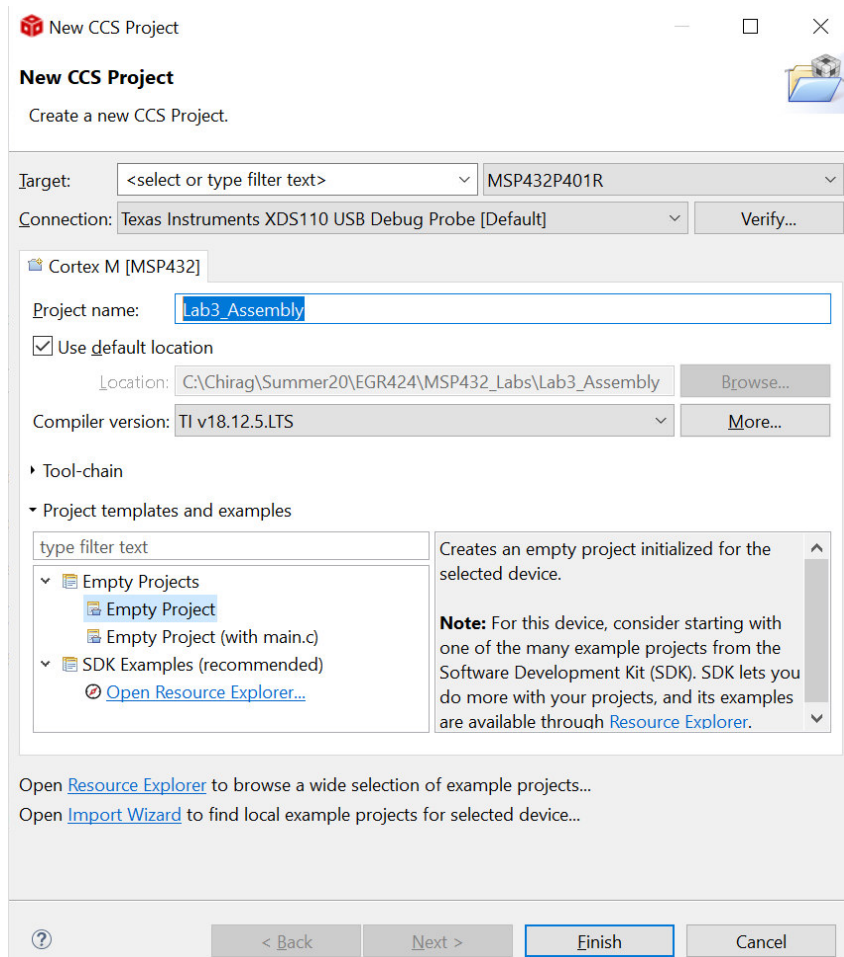

Figure 2: Creating an assembly project
2. Enter **Lab3_Assembly** as the Project name and select **Empty Project** as shown in Figure 2. Then click on **Finish** to create the project.